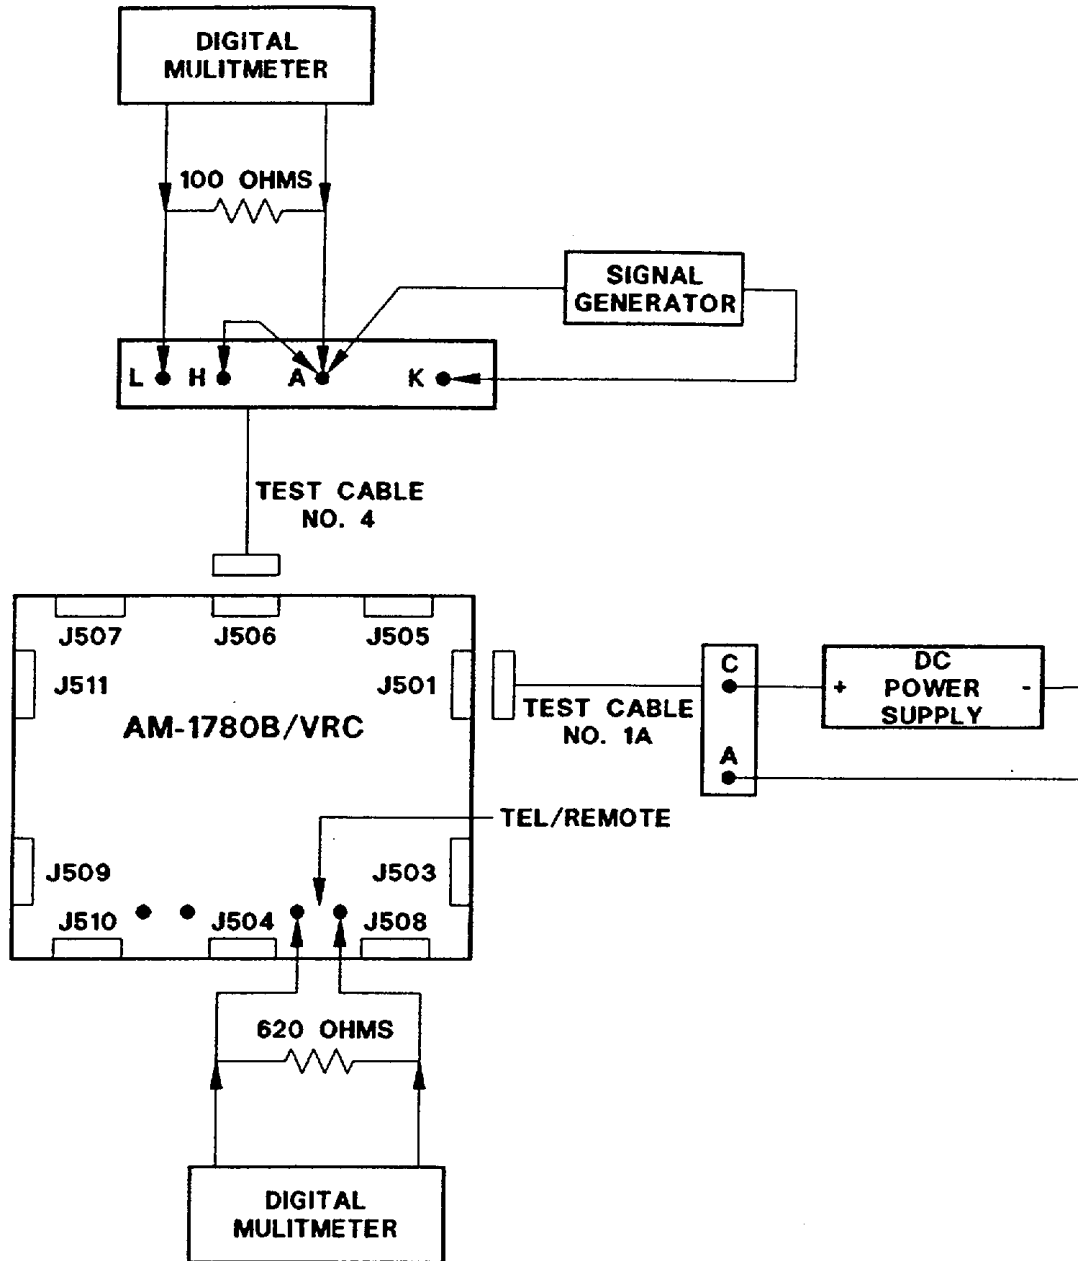

Figure 2-10. DS Test Setup J.
- e. Connect a 620 ohm resistor across TEL/REMOTE binding posts E503 and E504 (fig. 2-10). Connect a digital multimeter, set to read ac volts, across the resistor.